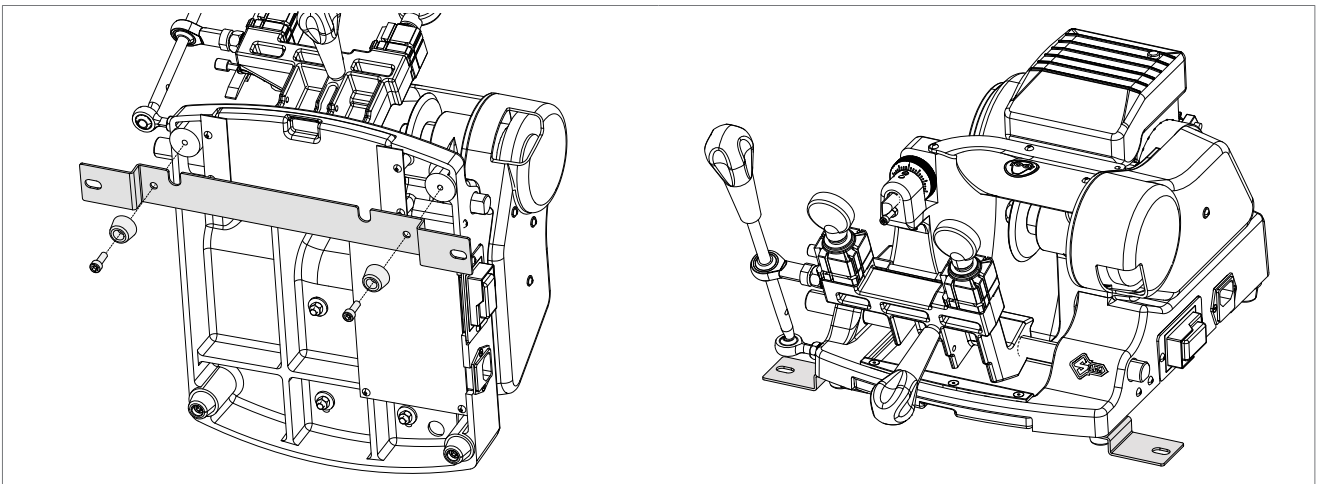

Fig. 12
- 4) Place the bracket as indicated in Fig. 12.
- 6) Return the machine to its upright position and fix it on the work top (Fig. 12).